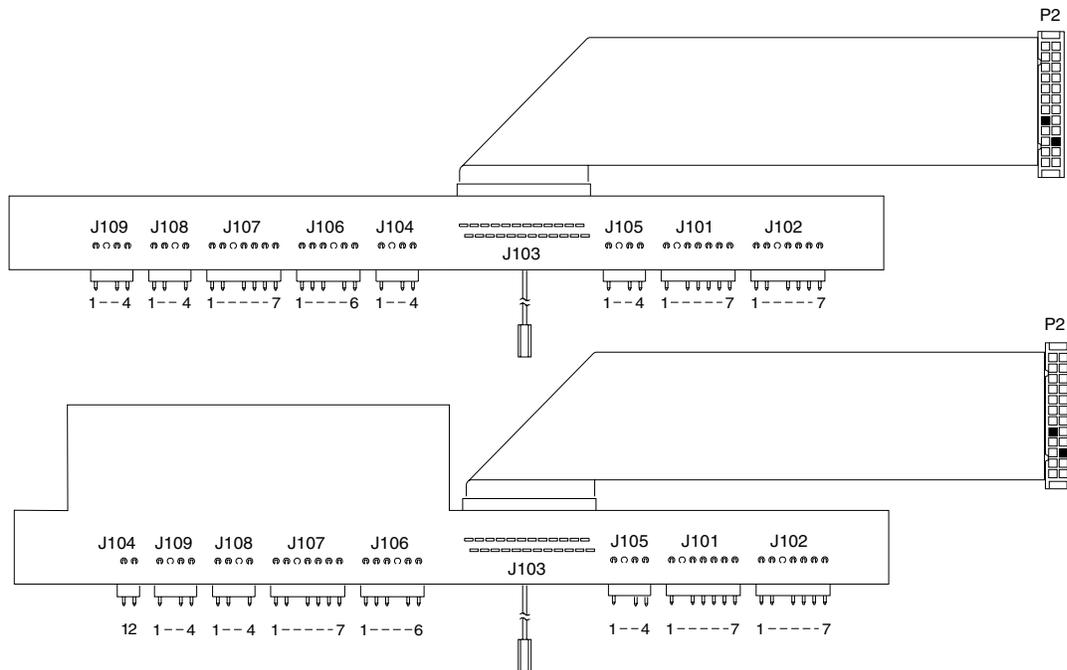
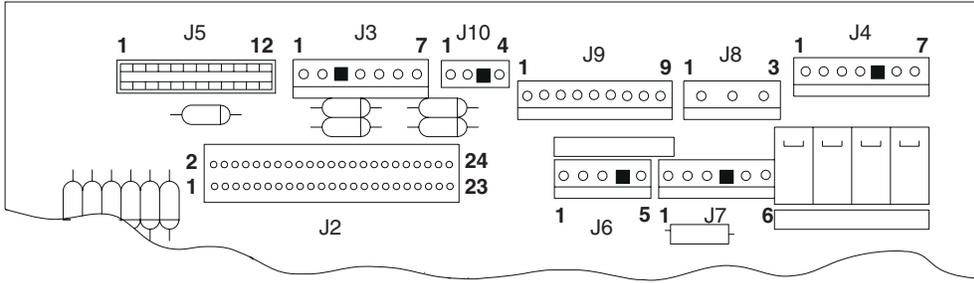

Figure 6-37. Extension Card Connections
Figure 6-38. Printer Card Connections
- Disconnect the transport motor cable from J4 on the printer card. See Figure 6-38 on page 6-65 for the locations of the printer card connections.
These tables provide the test points required to check the sensors in the Model 3 Printer. See Figure 6-37 on page 6-64 and Figure 6-38 on page 6-65 to locate the sensor card and the test points.